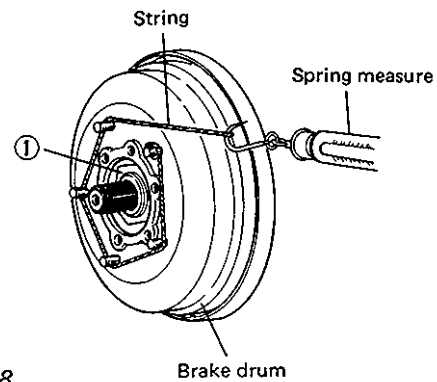

Fig. 17-38
- 3) If the bearing rattles, measure the bearing preload as shown in Fig. 17-38.